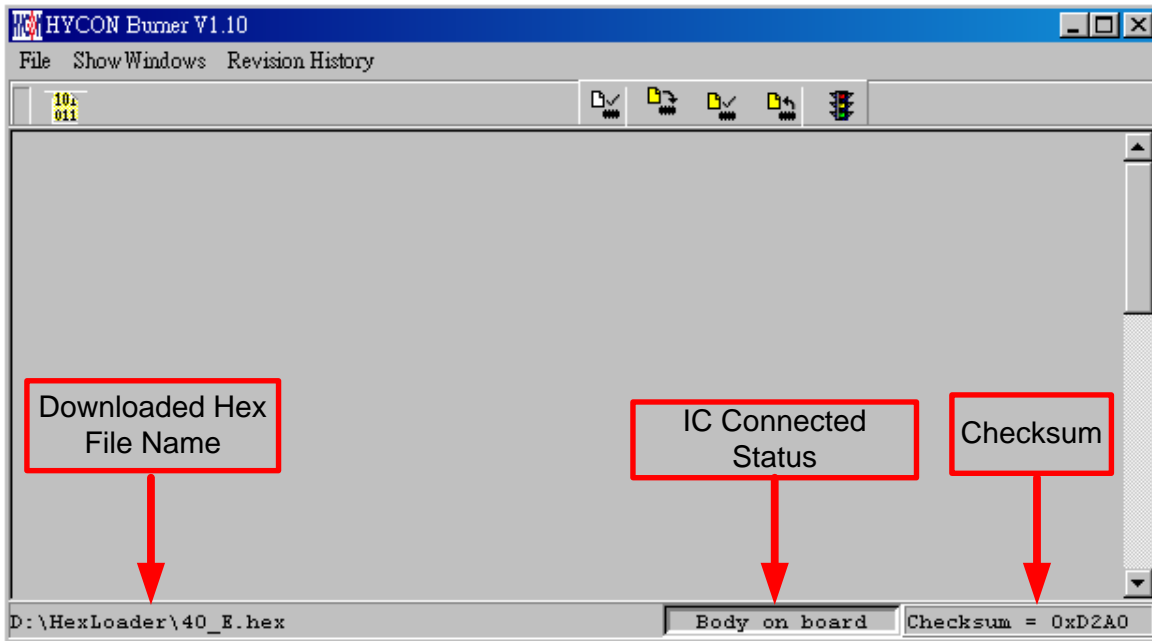

Figure 1- 11
(4) If assemblu options have enabled programming time selection, the message field will display the programming limit time.
(5) After compile finished, the Hex file name and Checksum would be shown below as shown in Figure 1- 13.